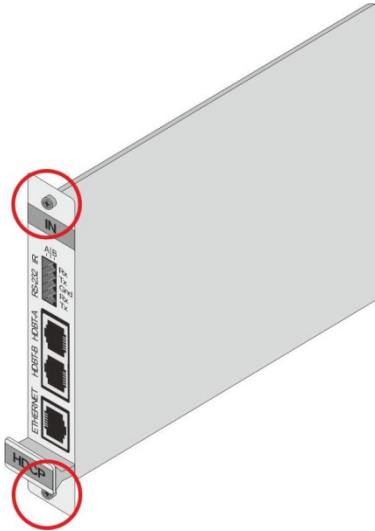

Figure 20: Card Handles
2. Using a Phillips screwdriver, loosen the screws at the top and bottom of the blanking plate (see Figure 20).